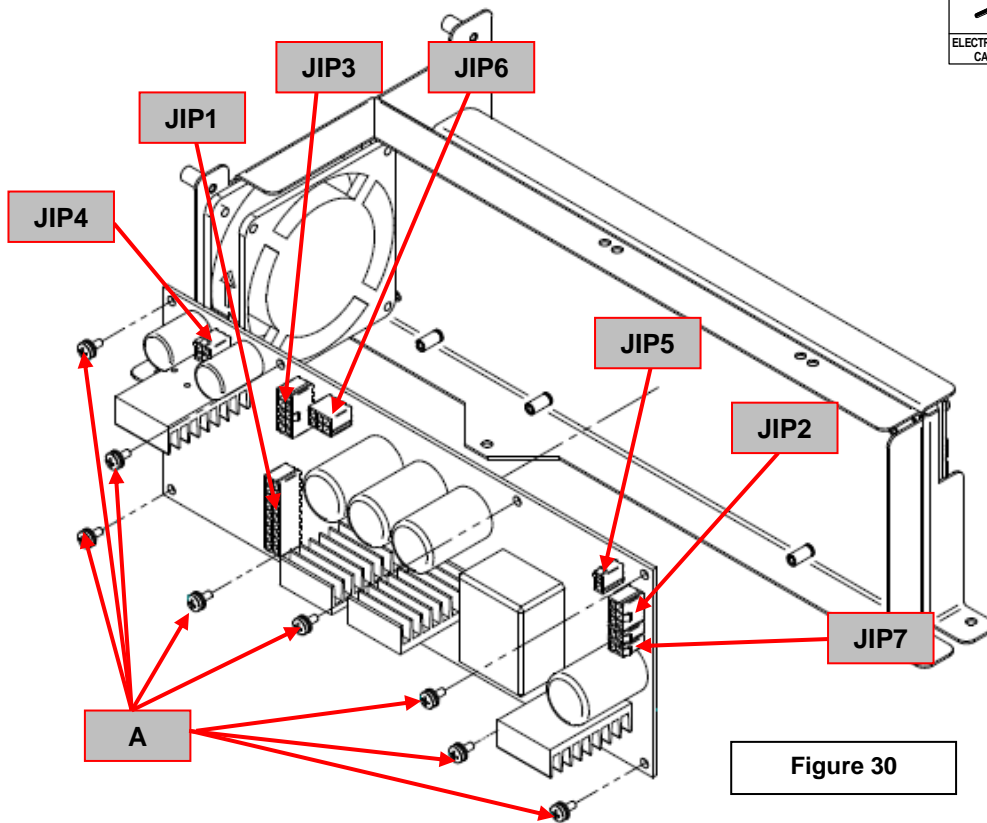

Figure 30
3. Locate the Input Power board W05X1461 on the upper left side of the machine, see **Figure 30**
4. Remove the connectors **JIP1**, **JIP2**, **JIP3**, **JIP4**, **JIP5**, **JIP6** and **JIP7** from the Input Power board. See **Figure 30**
5. Using the phillips screwdriver remove the 8 screws (**A**) that fix the Input Power board to the machine frame. See **Figure 30**